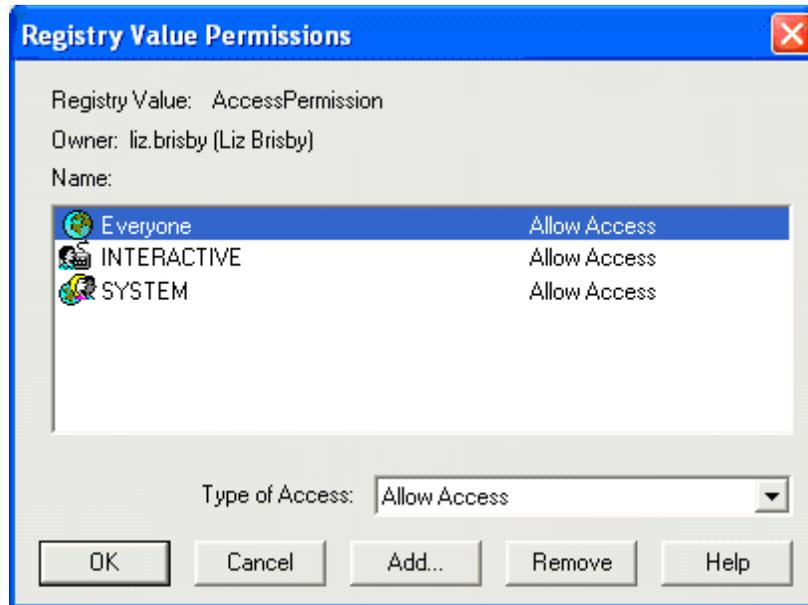

Figure 42 - Registry Value Permissions Window
8. The **Registry Value Permissions** window (Figure 42) appears.